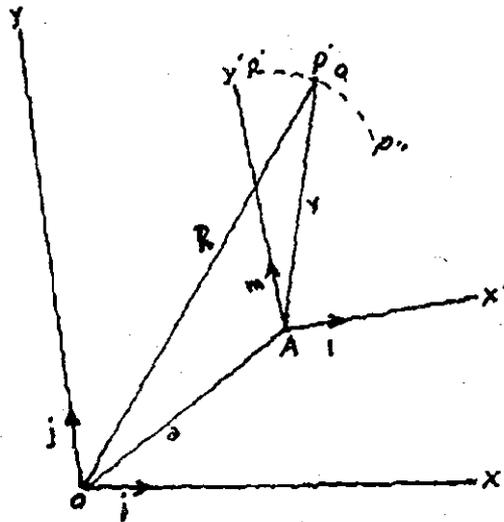

Fig. 5
- (b) (i) Let a point P move along the path P'PP'' relative to moving coordinate system x'y'z' as shown in Fig. 5. xyz is the fixed coordinate system. Using vector approach, prove that the absolute velocity of point P moving relative to a moving reference system is equal to the velocity of the point relative to the moving system plus